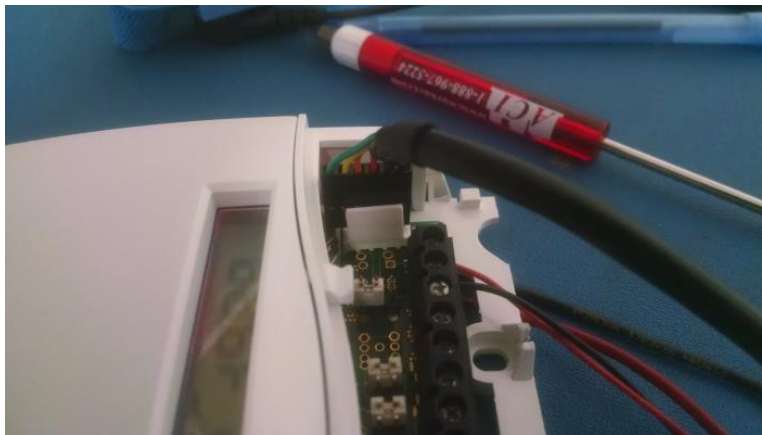

Figure 1
4. Power the sensor on and plug the programming cable into the sensor. The programming cable must have the black wire with the arrow connected towards the top of the connector on PCB as shown in Figure 1.